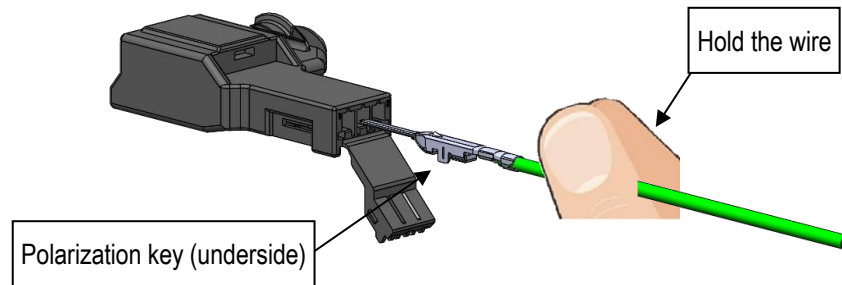

Fig 24. Terminal insertion direction
- ① Ensure that the terminal is crimped correctly and there is no damage, deform or dirt present.
- ② Hold the wire to insert the terminal as shown in Fig.24.
- ③ Insert the terminal into the corresponding corehole of the housing, as deeply as possible, in the orientation as shown in Fig. 24.
- ④ Once the terminal is inserted, ensure that the terminal retention is fastened by pulling the wire lightly towards you.